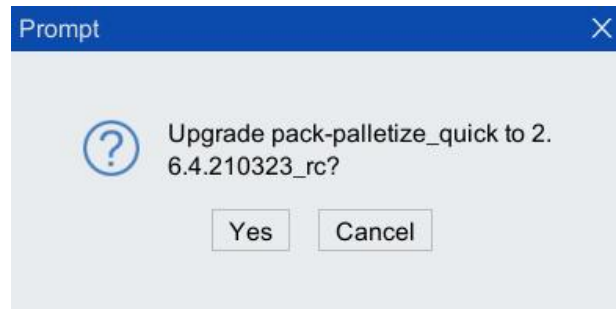

Figure 2-5 Prompt dialog box
Step7. The dialog box shown in Figure 2-5 pops up to prompt whether to upgrade. After checking, click the <Yes> button.